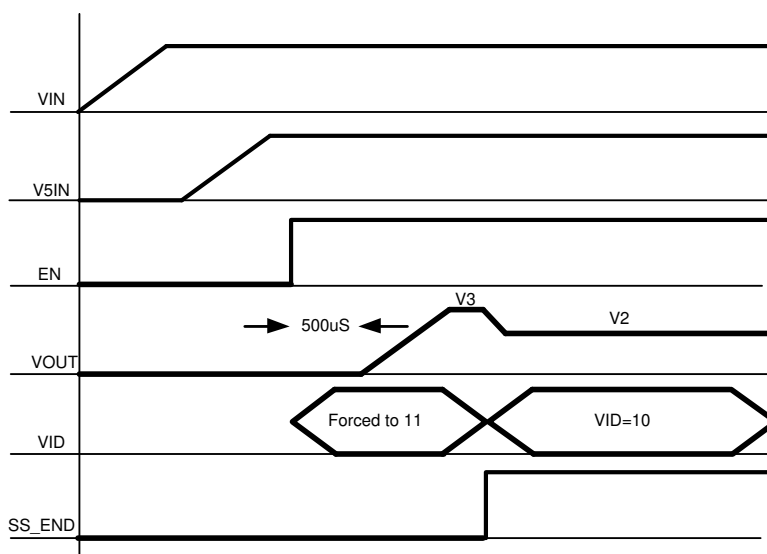

Figure 10. Power up Sequence
- VID is fixed to 11 internally until soft-start end which means that Vout ramp to V3 in soft start period. Figure 10 showed the power up sequence